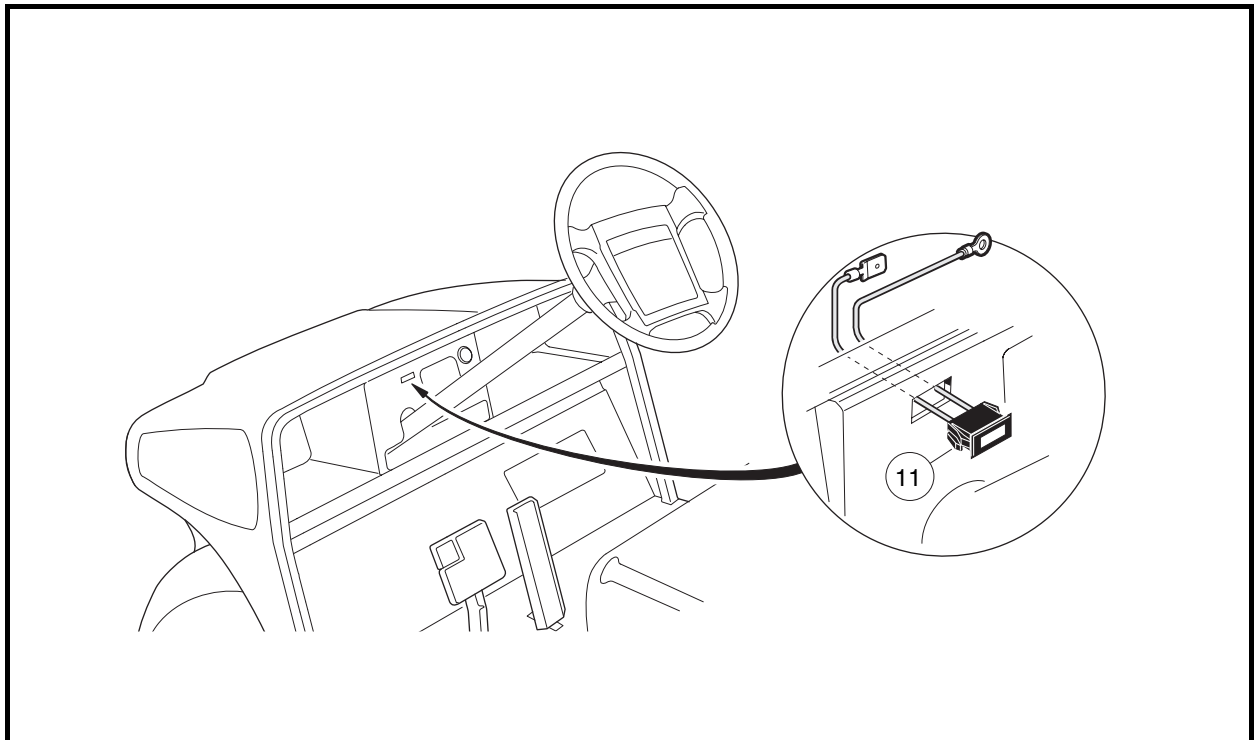

Figure 12-21 Battery Warning Light
4. Press the two retaining tabs (11) and remove the light from the center dash (**Figure 12-21, Page 12-22**).